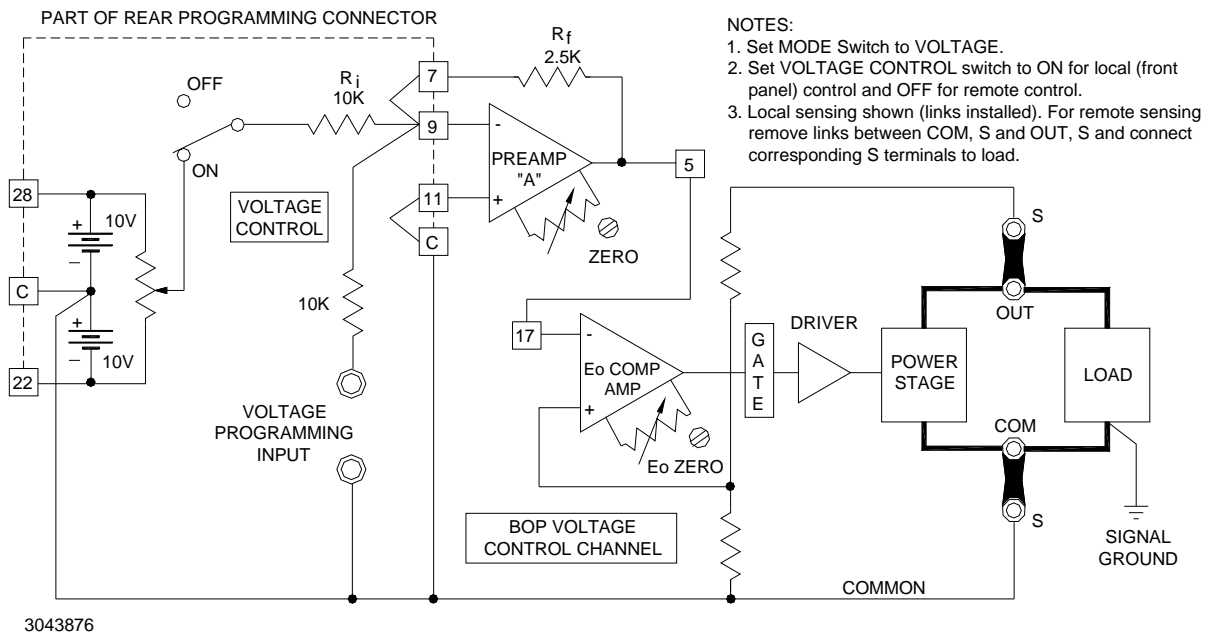

FIGURE 3-1. BOP VOLTAGE CONTROL CHANNEL (LOCAL CONTROL, LOCAL SENSING)
- Voltage Control Channel: see Figure 3-1 and PAR. 3.3.1 for local control.
Figure 3-1 illustrates the voltage control circuit configured for local (front panel) control using local sensing.